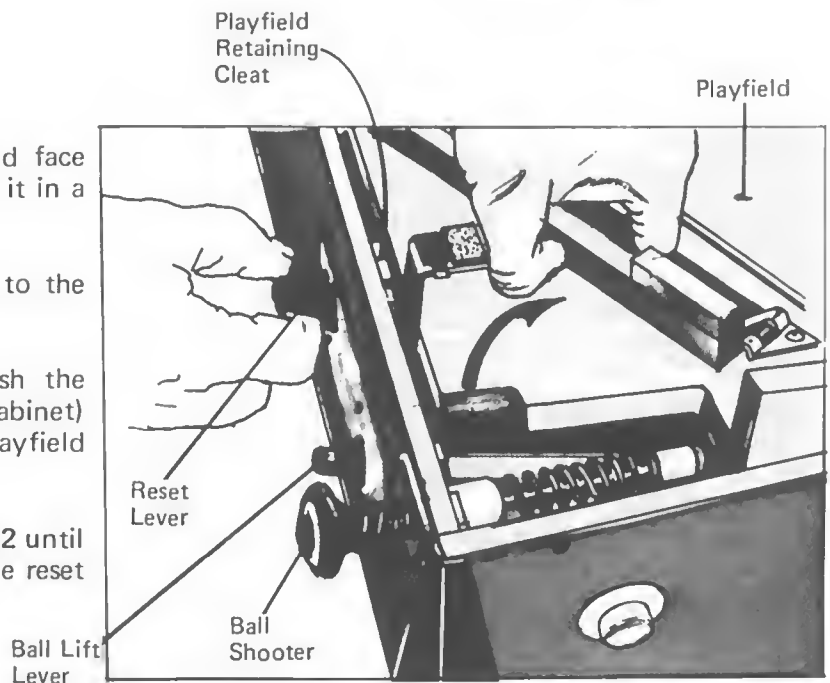

FIGURE 2
4. Lift the reset lever to prevent damage to the reset switch (Figure 2).
5. While holding the reset lever up, push the playfield forward (toward rear of cabinet) approximately 1/2" inch to clear the playfield of the retaining cleat. (Figure 2)
6. Lift the playfield up as shown in Figure 2 until it clears the reset lever, then release the reset lever.
2. Lift the reset lever, then slide playfield toward front of lower cabinet until end of playfield is underneath the retaining cleat. (Refer to Page 6, Figure 2)